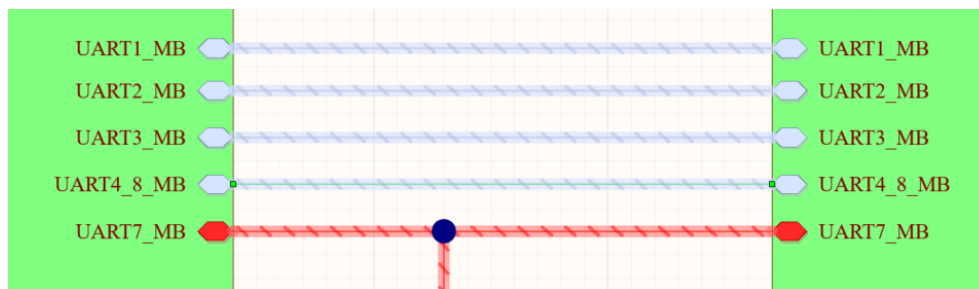

Figure 30. Signal Harnesses for the UART[number]_MB
71. Create the connection between the two Sheet Symbols by placing Signal Harnesses to their respective Sheet Entries. Your final result should look similar to Figure 30.